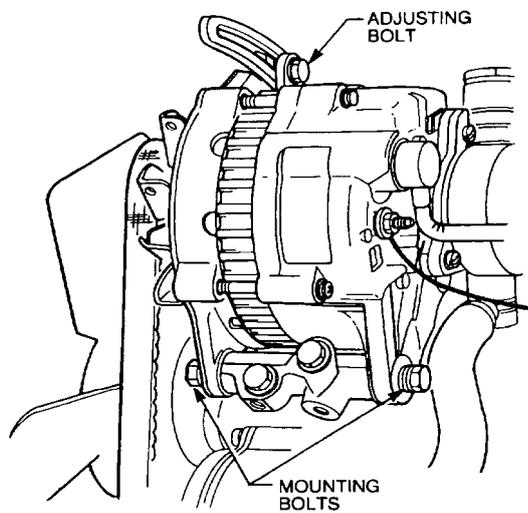

Figure 25 Alternator Adjusting Bolts
- m. Slacken the alternator mounting bolts, remove the adjusting bolt and remove the fanbelt (Figure 25).